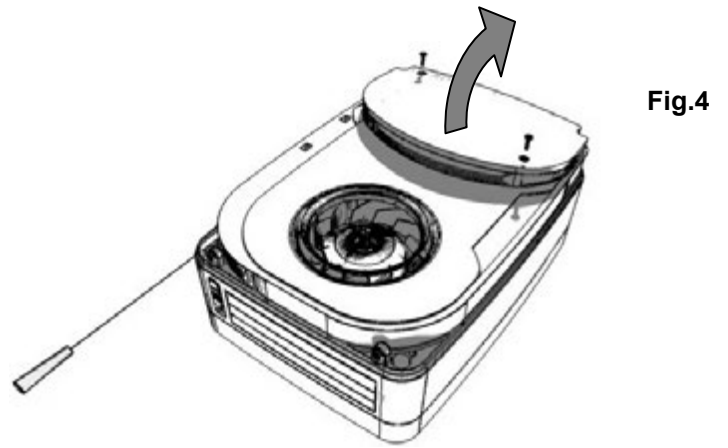

Fig.4
4) Remove 2 screws and detach Electrical Cover Fig 4